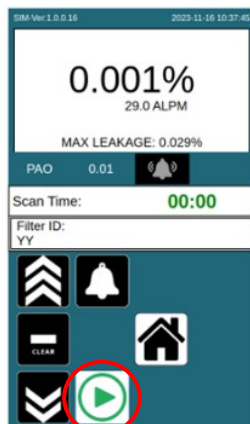

Figure 8. Play key
- After pressing the green Play key (Figure 8) to start recording a leak test